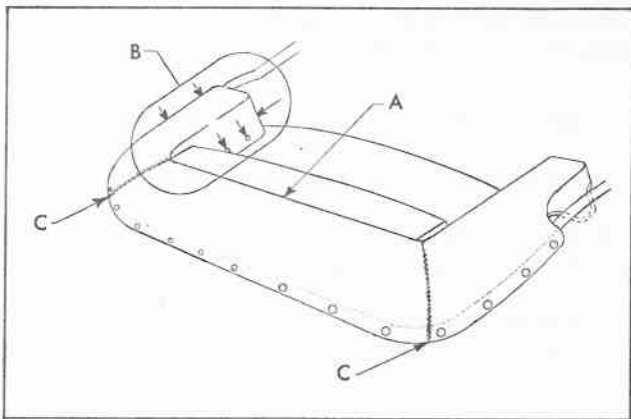

Fig. 2 Folding Top Dust Boot
2. Slide front edge of folding top dust boot into seat back retainer indicated at "A" in Figure 2. Make sure that boot is centered in retainer.
3. Carefully position top boot over linkage, making certain the entire boot is properly positioned, as shown in Figure 2. Illustration shows boot fasteners installed.
9. Snap installed fasteners in place, and carefully pull rear edge of dust boot at seam locations, indicated at "C" in Figure 2, to obtain a good fit. Mark location of the first stud fastener inboard of seam "C" in same manner as performed previously, then install fasteners and snap boot in place.